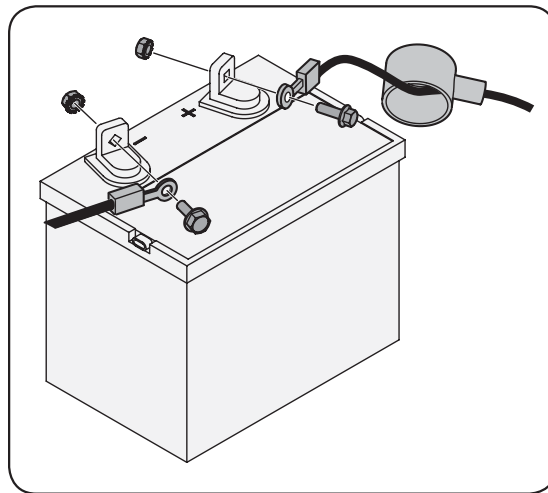

Figure 3-1
- Remove the plastic cover, if present, from the positive battery terminal and attach the red cable to the positive battery terminal (+) with the bolt and hex nut. See Fig. 3-1.
- Remove the plastic cover, if present, from the negative battery terminal and attach the black cable to the negative battery terminal (-) with the bolt and hex nut. See Fig. 3-1.